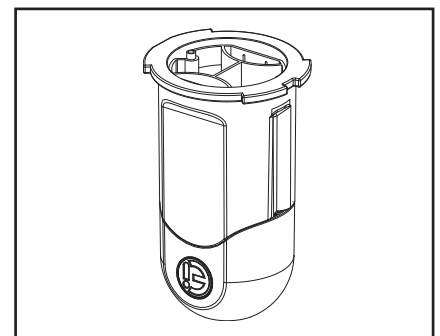

Figure 29. Invert the Cell
6. Refit the terminal cap on the cell and invert (see Figure 29).
7. With protective glasses and gloves on, add one (1) part muriatic acid to ten (10) parts water and mix.